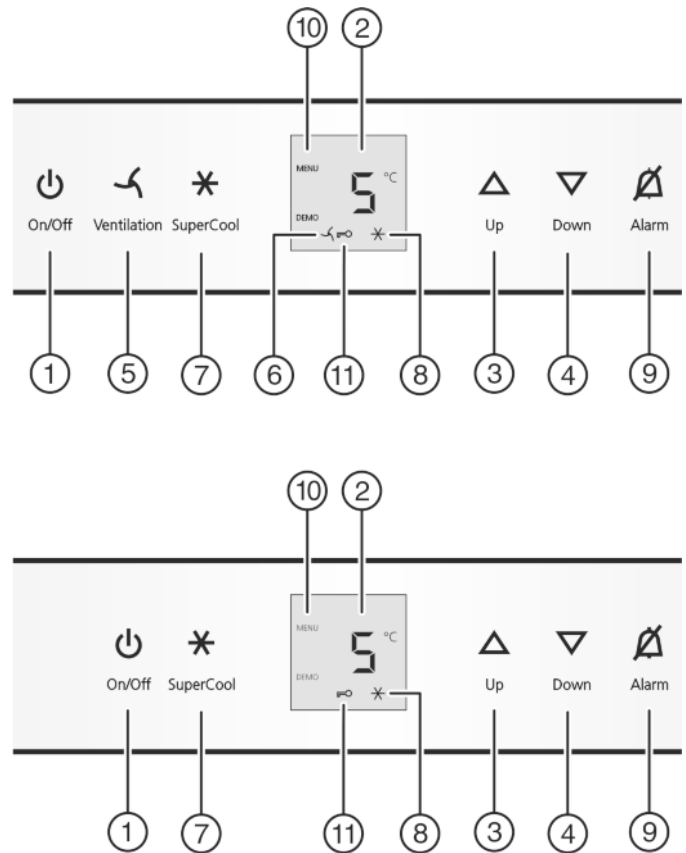

Fig. 2
- ▶ Press On/Off button *Fig. 2 (1)*.
- ▶ Activate setting mode: Press the SuperCool button *Fig. 2 (7)* for around 5 seconds.
- ▶ Briefly press the SuperCool button *Fig. 2 (7)* to confirm. When **cl** is indicated in the display:
- ▶ to activate the child lock, briefly press the SuperCool button *Fig. 2 (7)*.
- ▷ The child lock symbol *Fig. 2 (11)* shines. **c** flashes in the display. When **cl** is indicated in the display:
- ▶ to deactivate the child lock, briefly press the SuperCool button *Fig. 2 (7)*.
- ▷ The child lock symbol *Fig. 2 (11)* goes out. **c** flashes in the display.
- ▶ To deactivate the set-up mode: press On/Off button *Fig. 2 (1)*.
- ▶ Press alarm button *Fig. 2 (9)*.
- ▶ For a higher temperature setting: press Up button *Fig. 2 (3)*.
- ▶ For a lower temperature setting: press Down button *Fig. 2 (4)*.
- ▶ Briefly press SuperCool button *Fig. 2 (7)*.
- ▷ The SuperCool symbol *Fig. 2 (8)* lights up in the display.
- ▷ The SuperCool symbol *Fig. 2 (8)* goes out in the display.
- ▶ Briefly press the fan button *Fig. 2 (5)*.